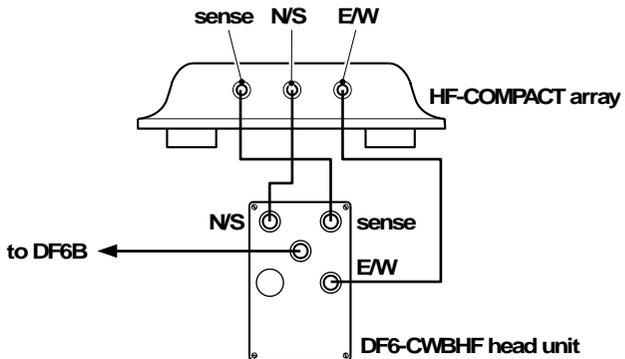

Figure 3.4 Wideband HF Array Connections
3.3.2 HF Wideband Compact Array (Figure 3.4)